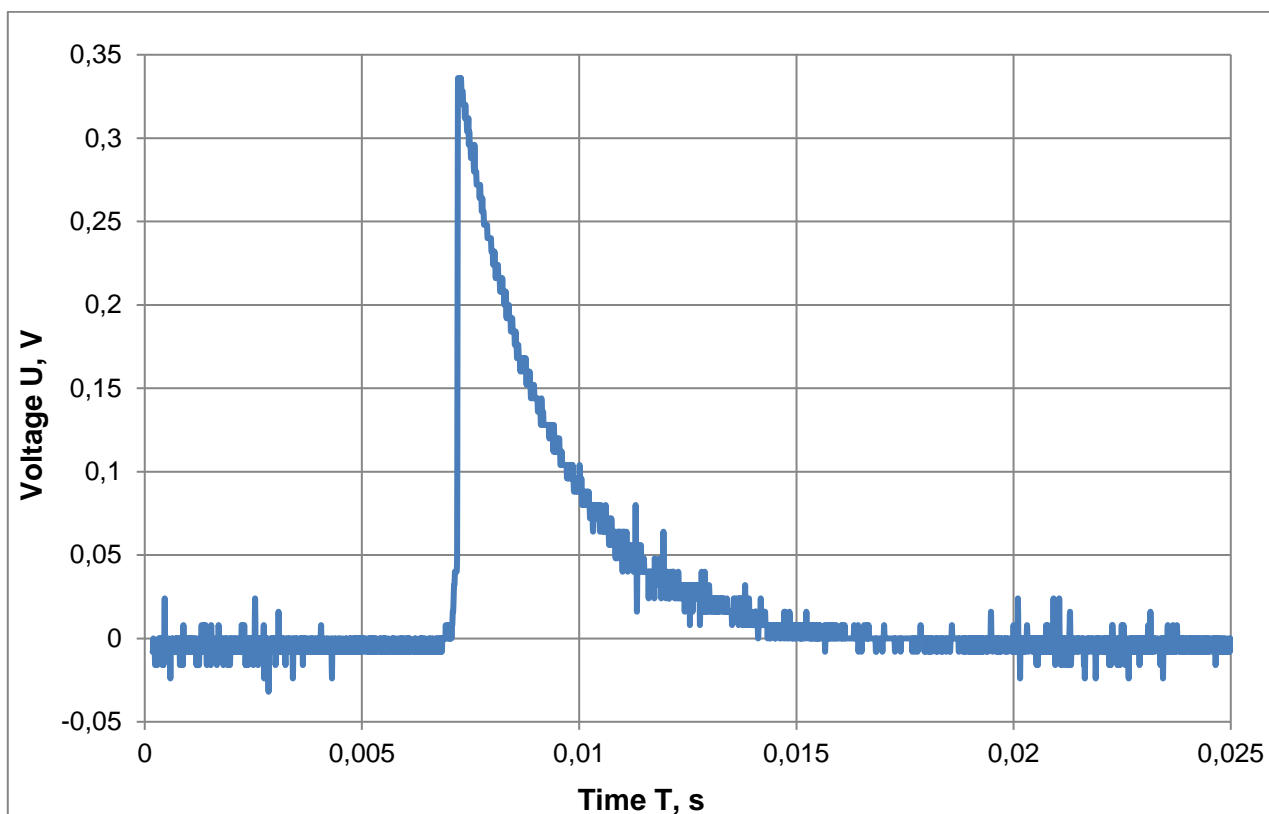
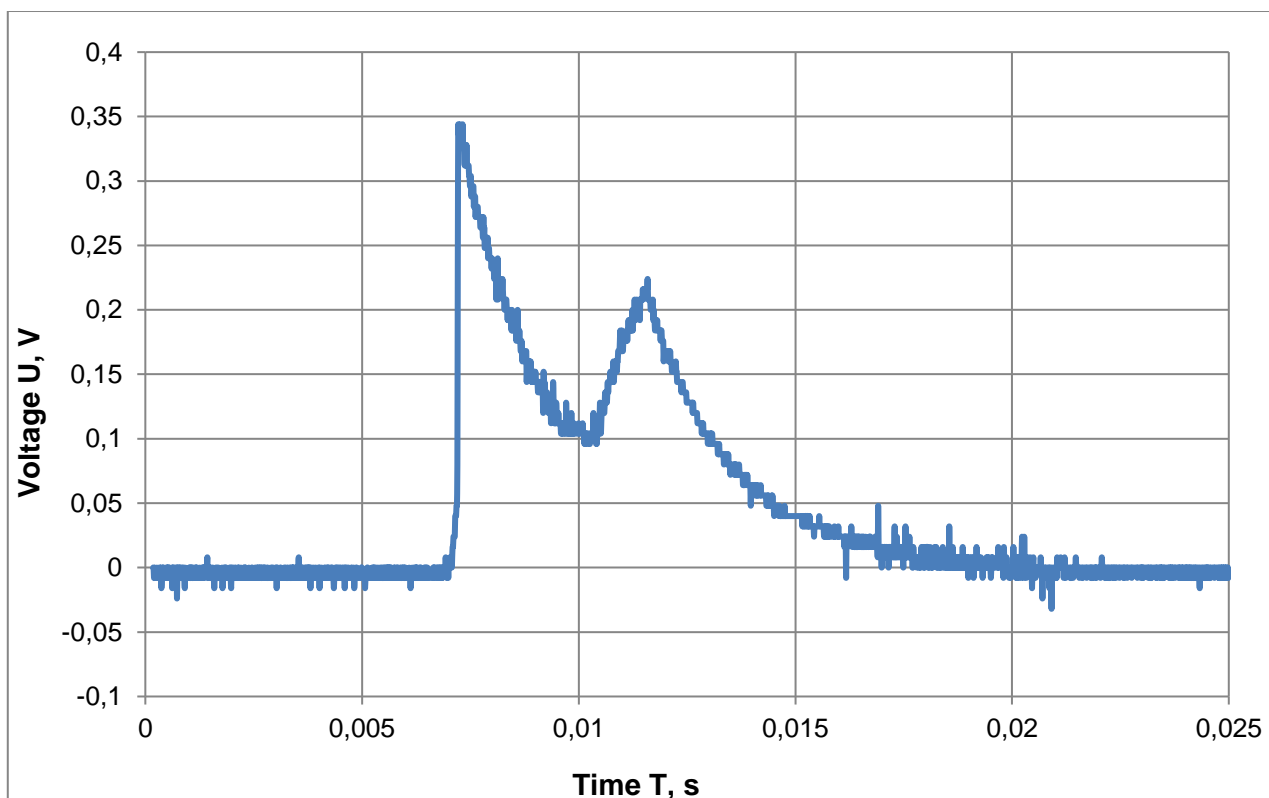

Fig. 2. Typical voltage drop within a single operating period (3.3 V Input; R = 100 Ohm)
Fig. 3. Typical voltage drop within a single operating period and while data transferring (3.3 V input; R = 100 Ohm)
- During operation MIPEX-04 has pulsed power consumption. Pulse repetition period is about 320 ms, maximum surge current is 4 mA. Average power consumption is 35 µA (see Fig. 2 and Fig. 3).